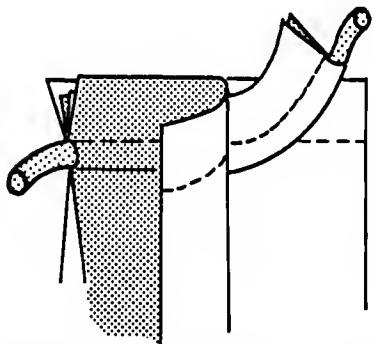

Fig. 99A. Making a corded seam.
2. Place the bias around the cord right side out and machine-baste with the cording foot close to the cord, using matching thread (Fig. 99A).